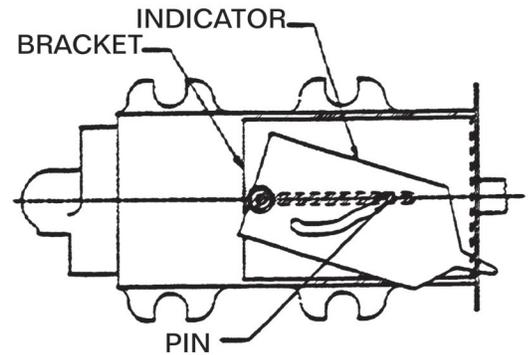

FIGURE 1
2. Install the indicator bracket assembly (519-0071-10-0) to the PMD Control Valve by placing the slot in the bracket and white pressure indicator over the pin in the PMD Control Valve. The (4) mounting holes in the indicator bracket should align with the tapped holes in the PMD Control Valve. The top view of the PMD Control Valve with the indicator bracket assembly installed is shown in *Figure 1*.